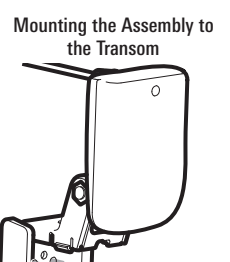

Figure 27
5. Align the mounting bracket transducer assembly with the drilled holes in the transom. With a 5/16" socket driver, mount the assembly to the transom using the two #10 - 1" long screws provided (Figure 27). **Hand-tighten only!**